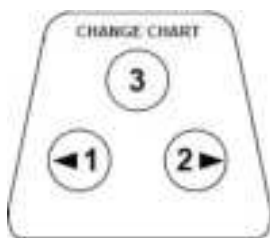

Figure 12. Chart Buttons
2. Press and hold the change chart button (#3 in Figure 12) for approximately one second. The pen will move off the scale.
3. Compare the recorder temperature to the solution temperature. If necessary, adjust the recorder by pressing the left and right chart buttons (#1 and #2 from Figure 12) for approximately five seconds.